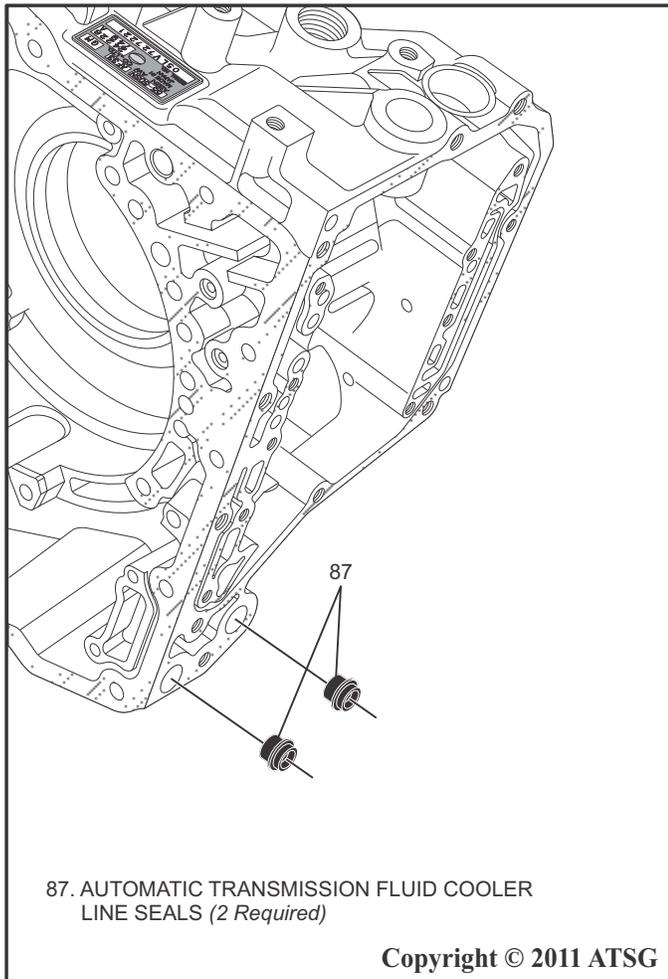

Figure 74
2. Using SST J45201 or other adequate seal removing tool, remove the two automatic transmission fluid cooler line seals as shown in Figure 74.